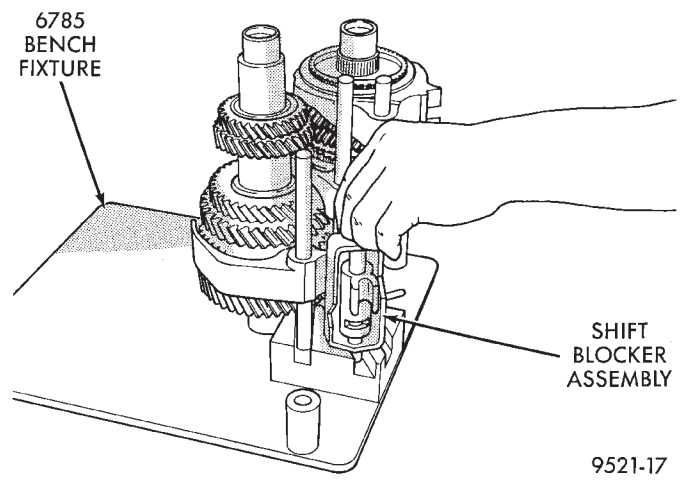

Fig. 63 Shift Blocker Removal
(19) Remove the shift blocker assembly from the bench fixture (Fig. 63).